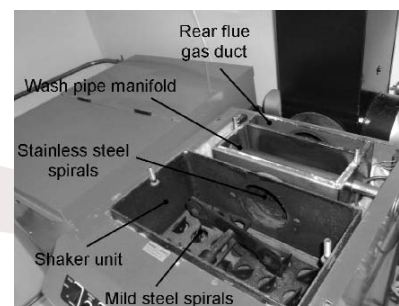

Figure 11-8: Top of heat exchangers
- Before moving the combustion chamber baffle (located in the top of the combustion chamber) remove all ash deposits from the upper surface using a vacuum. Refer to Figure 11-8.
- Refit the combustion chamber baffle in position ensuring it is seated correctly on the fixing brackets. Refer to Figure 11-8.